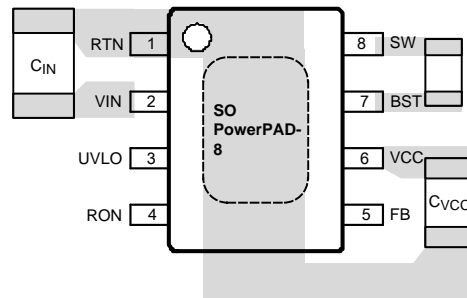

Figure 20. Placement of Bypass Capacitors
1. C_{IN} : The loop consisting of input capacitor (C_{IN}), V_{IN} pin, and RTN pin carries switching currents. Therefore, the input capacitor should be placed close to the IC, directly across V_{IN} and RTN pins and the connections to these two pins should be direct to minimize the loop area. In general it is not possible to accommodate all of input capacitance near the IC. A good practice is to use a $0.1 \mu\text{F}$ or $0.47 \mu\text{F}$ capacitor directly across the V_{IN} and RTN pins close to the IC, and the remaining bulk capacitor as close as possible (see Figure 20).
2. C_{VCC} and C_{BST} : The V_{CC} and bootstrap (BST) bypass capacitors supply switching currents to the high and low side gate drivers. These two capacitors should also be placed as close to the IC as possible, and the connecting trace length and loop area should be minimized (See Figure 20).